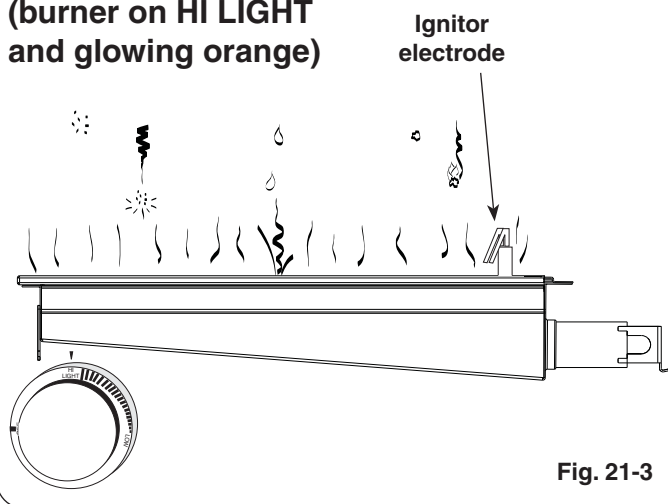

Fig. 21-3
- **DO NOT place food on the cooking grid until the IR burner glows orange (Fig. 21-3).** Drippings are heated and evaporate instead of sticking to and impairing burner function.